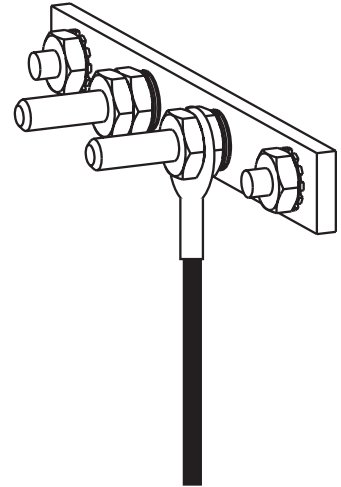

Figure 7
Step 8: Attach the end of the ground wire to the grounding busbar inside the cabinet (Figure 7).